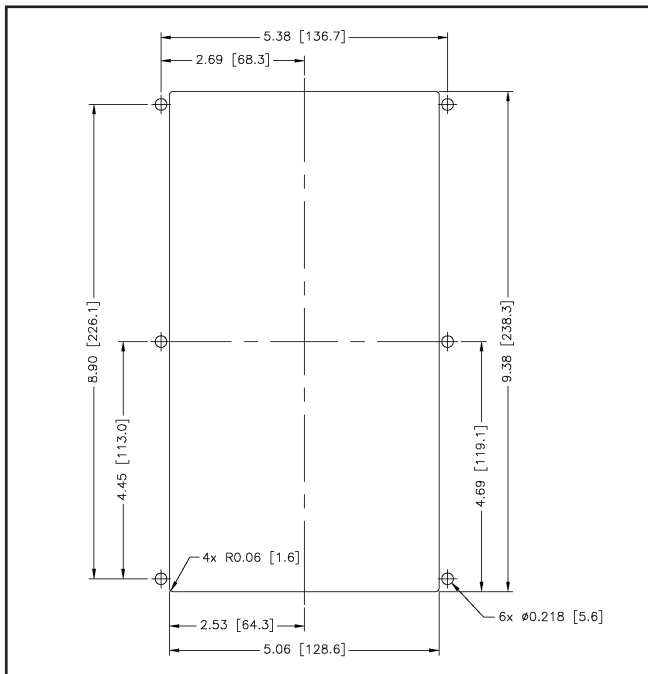

Figure 15. RDP Cutout and Mounting
1. Install the RDP using cutout and mounting dimensions provided in Figure 15.